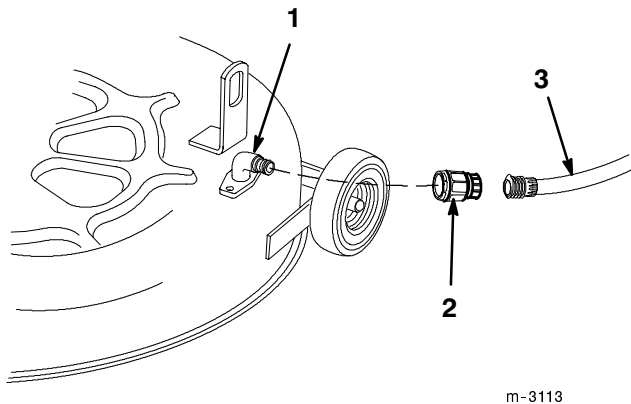

Figure 35
2. Attach the hose coupling to the end of the mower washout fitting, and turn the water on high (Fig. 35).